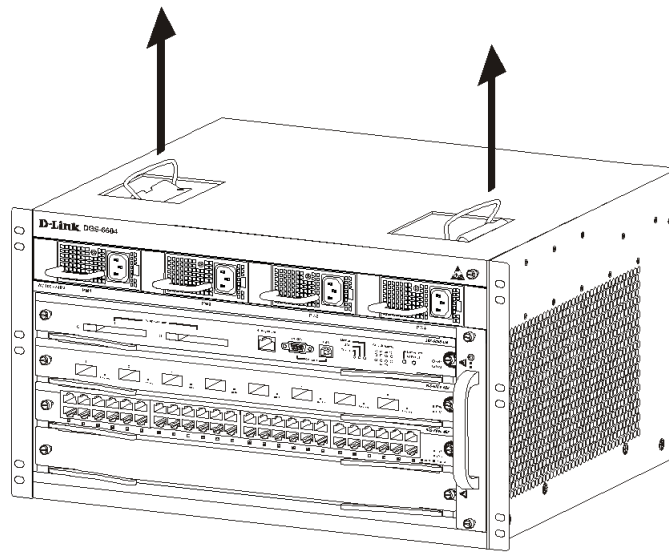

Figure 1 Diagram showing how to correctly hold, while moving, the DGS-6604
- When lifting or handling the DGS-6604 use the lifting handles show in Figure 1. No other parts of the DGS-6604 should be used for lifting or handling.
Before moving the chassis, remove all line cards, the fan tray, and all power modules. After removing all line cards, the fan tray, and all power modules, use the handles on the top of the chassis (Please see Figure 1.) to move the Switch to avoid causing any damage.